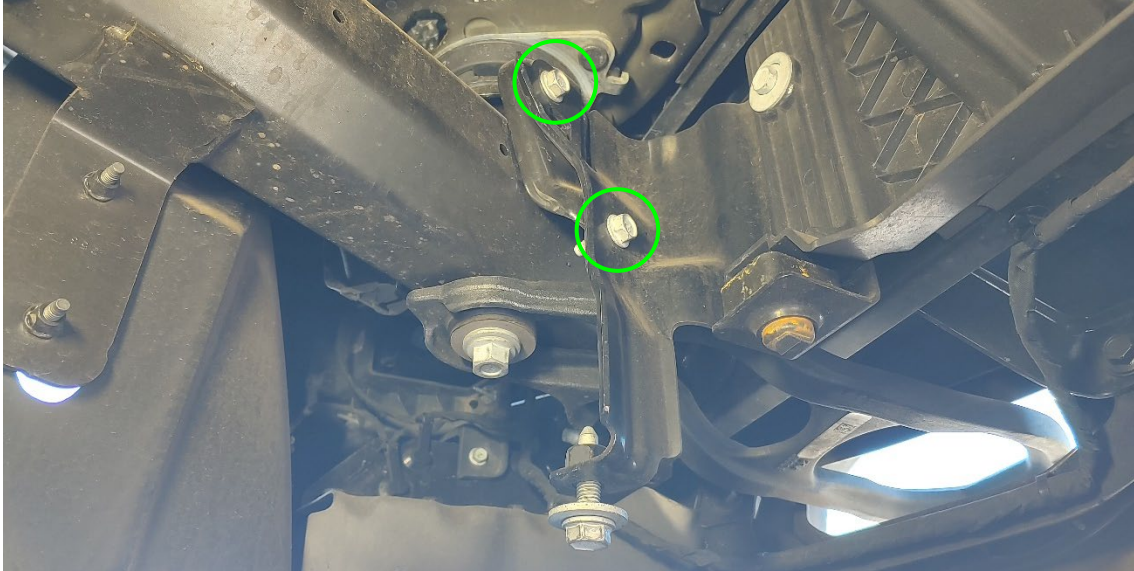
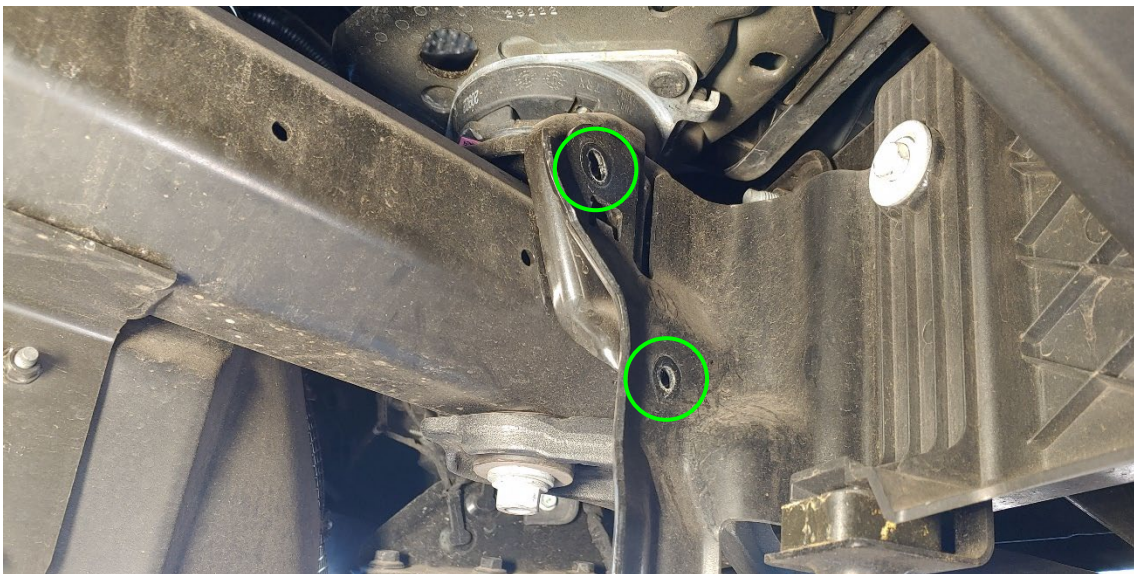

Figure 22- OEM Bolt Removal, Location
Figure 23- OEM Bolts, Removed
- b. The bracket should be placed over the highlighted hole (Ref. Figure 22 Right) on top of the crossmember and sit next to the mounted shock reservoirs (Ref. Figure 23).